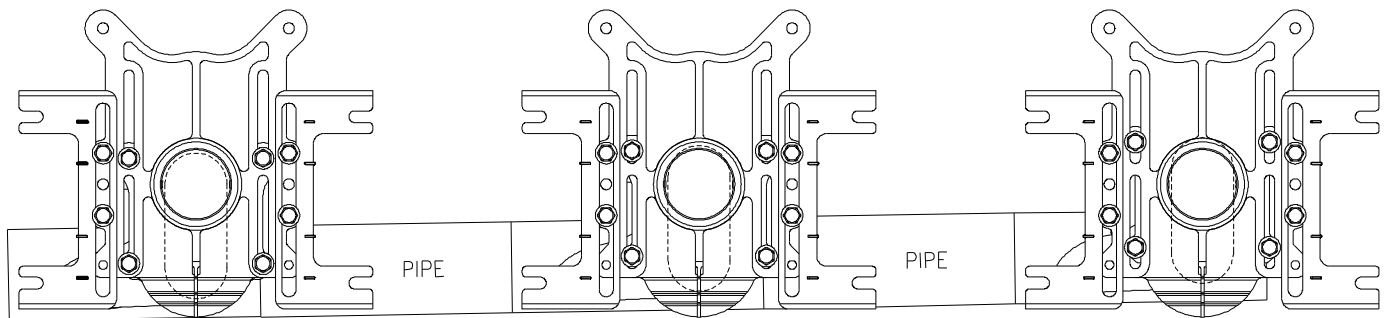

Fig. 7
7. Determine the required height of each carrier fitting needed to obtain the required drainage pitch in the carrier bank. Loosen the faceplate bolts to adjust the waste line height and pitch as required. Re-secure bolts using ratcheting wrench (25-35 lb-ft torque). See Fig. 7